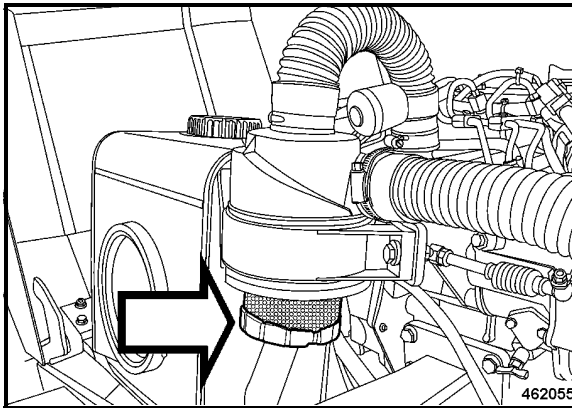

Fig. 126
- Before re-installation check the sealing faces on the air filter cartridge (Fig. 126).